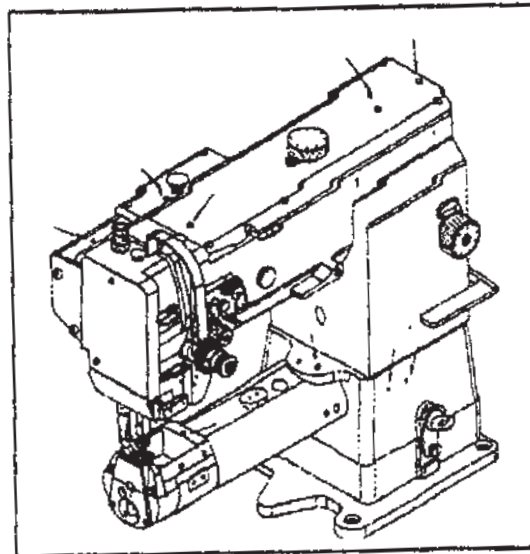

Fig.14
4. Adjustment of stitch length and reverse sewing (Fig.14):